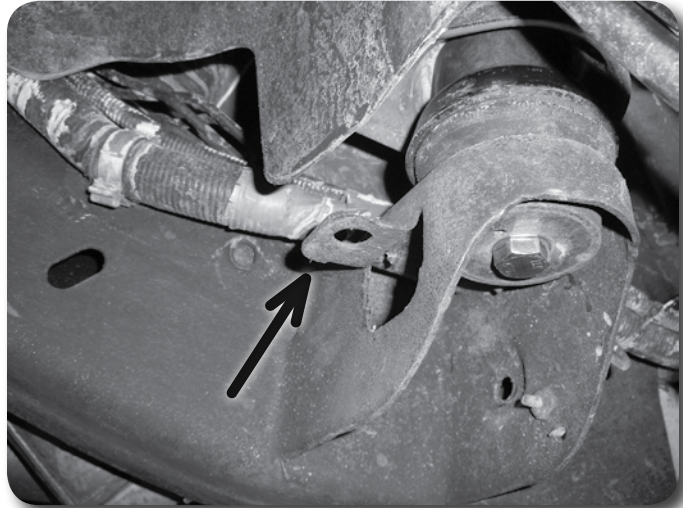
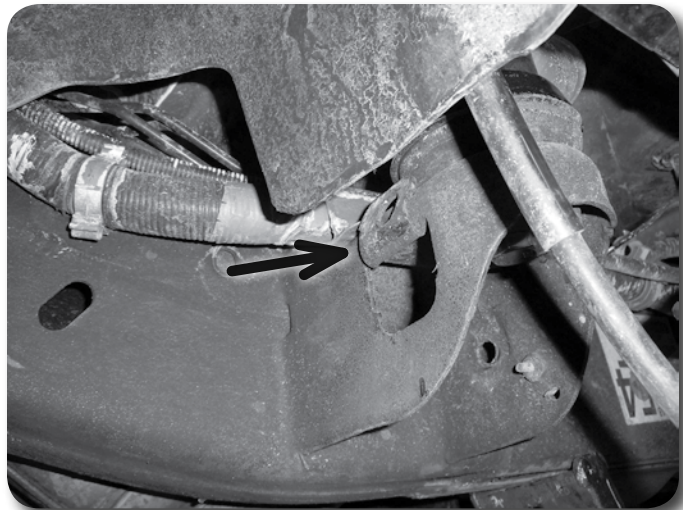
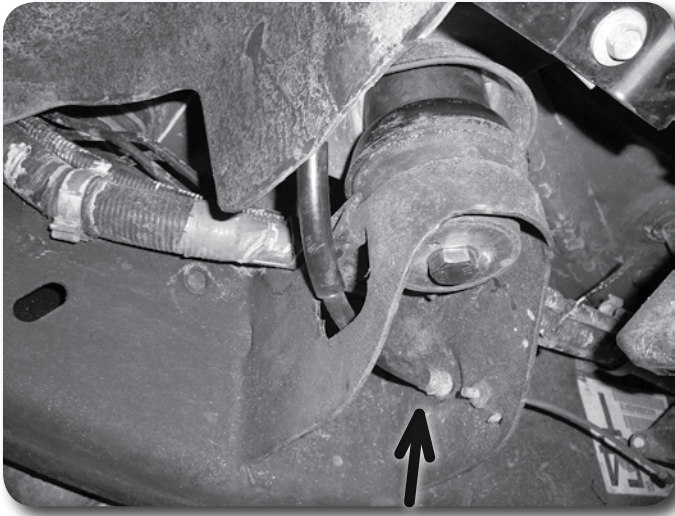

Figure 26A
Figure 26B
Figure 26C
55. Locate the tab on the driver's side body mount where the parking brake cable runs through it. **Figure 26A** Bend the tab up flat against the mount to gain slack for the cable. **Figure 26B** Run the cable back through the mount into its original location. **Figure 26C**